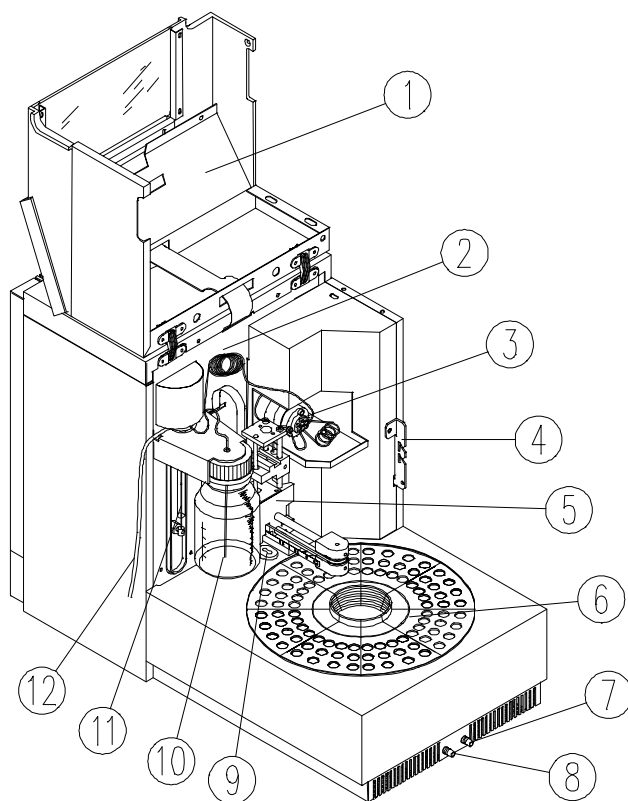

Figure 1.1 Front view of the Triathlon
- Syringe waste: put the end of the syringe waste tube (see figure 1.1, number 12) in a bottle placed next to the Triathlon.
- Drain wash-position: connect the hose to the drain wash connector of the Triathlon (see figure 1.1, number 7); place the other end of the hose in a bottle placed on the floor. Through this drain all liquid dispensed to waste at the back of the tray is removed.
- Condensed water and leakage: connect the hose to the drain port of the Triathlon (see figure 1.1, number 8). Place the other end of the hose in a waste container on the floor. Through this hose all leakage solvents and condensed water (if Peltier cooling is installed) are drained.